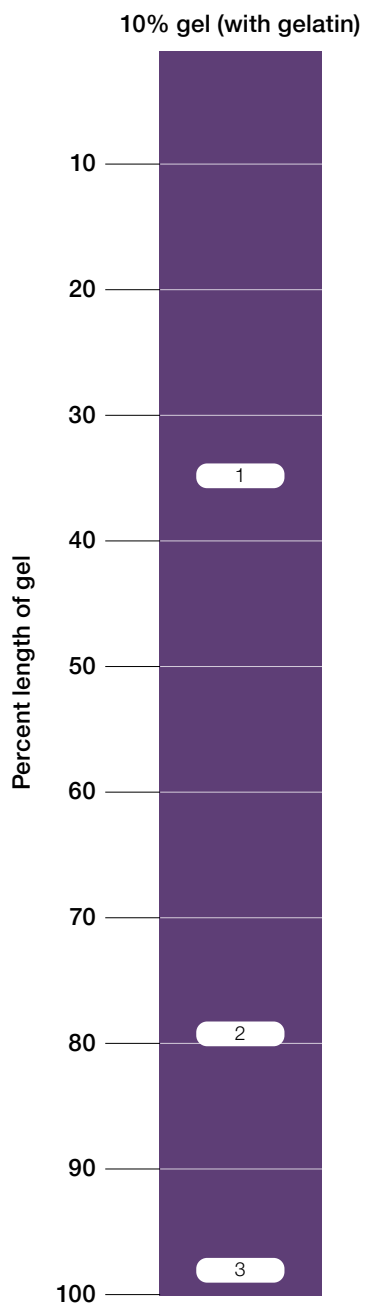

Figure 22. Novex Zymogram Plus (gelatin) gel migration chart.
- Separation range: 20–220 kDa (Figure 22)